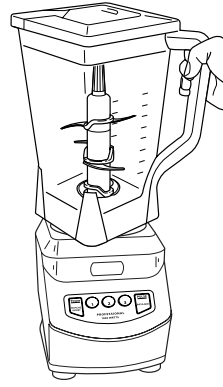

Fig. 6
- 13 To remove the pitcher, press the power button (⏻) to turn the appliance 'Off'. Wait for the Stacked Blade Assembly to stop moving before removing. **(Fig. 6)**